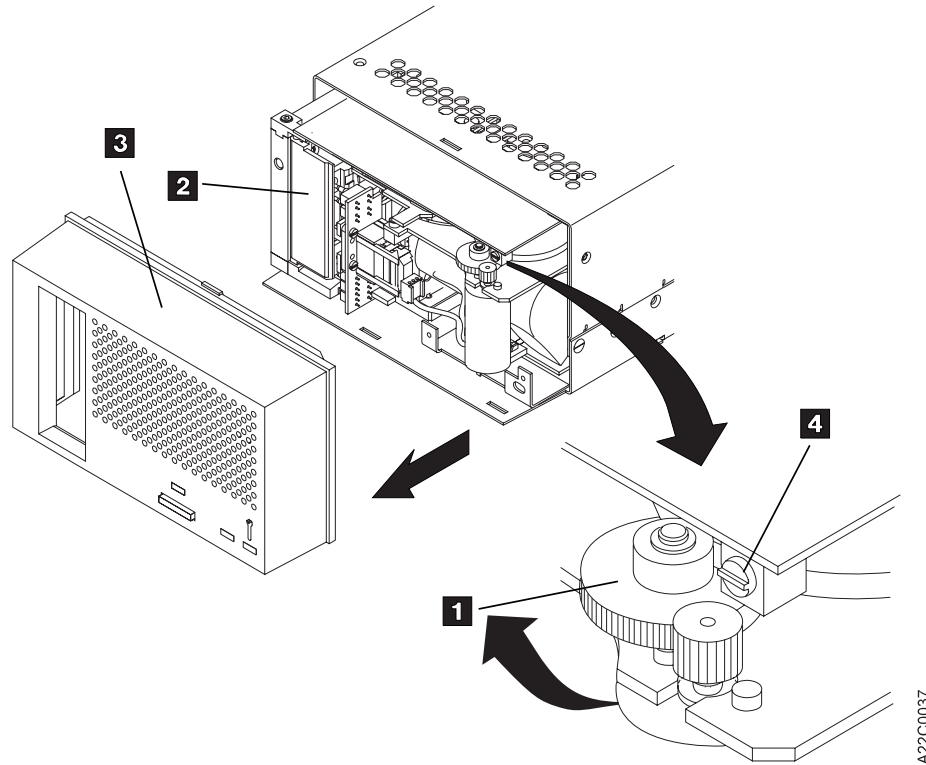

Figure 16. Removing a Stuck Cartridge from Model B00
4. See Figure 16. Remove the drive cover **3** from the drive by pressing the top center of the drive cover and pulling it free.